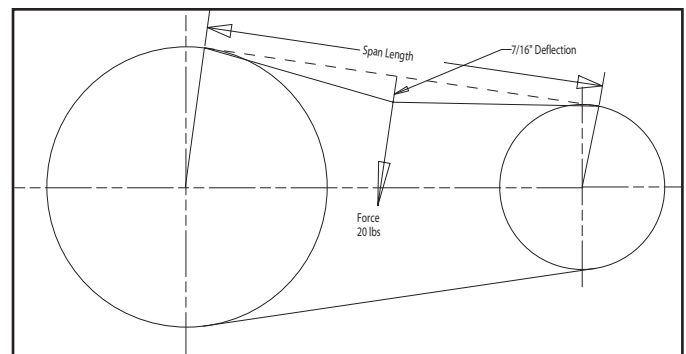

Figure 5.4 - Belt Tension
6. Slide the engine forward until the belt deflection is 7/16" when a 20 lb. load is placed against the belt (Figure 5.4).
7. Slide the jackshaft away from the frame until the belt deflection is 7/16" when a 20 lb. load is placed against the belt (Figure 5.4). Make sure the jackshaft is aligned parallel to the rotor shaft before tightening the bolts securing the pillowblock bearings to the chipper frame.